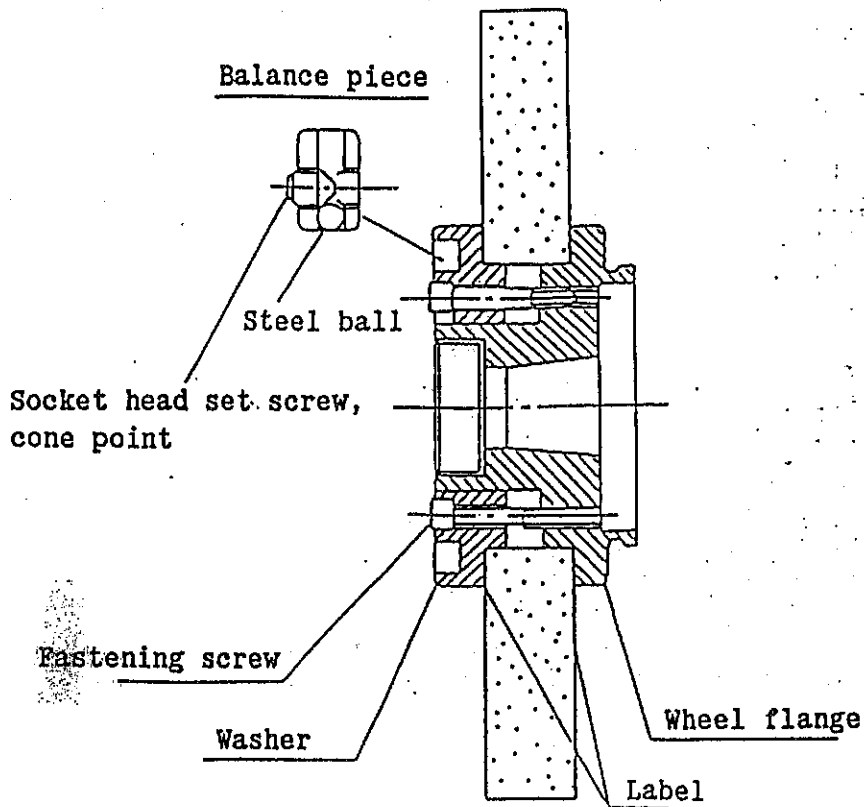

Fig. 11-2 Assembly of Wheel Flange Unit
- 2) Assemble a wheel flange unit as shown in Fig. 11-2, except the balance piece. For fastening screws, try and tighten them diagonally by turns.